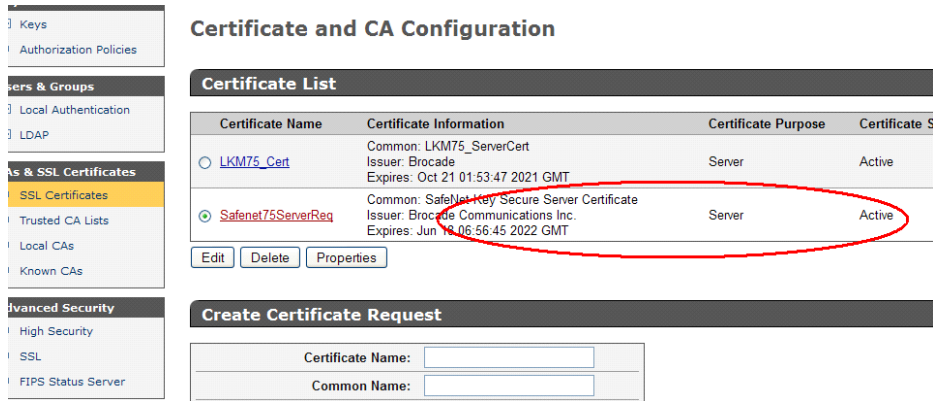

FIGURE 226 KeySecure Certificate and CA Configuration page - Certificate List
14. After the page refreshes, the new certificate information is displayed in the **Certificate List** table. (Refer to Figure 226.)